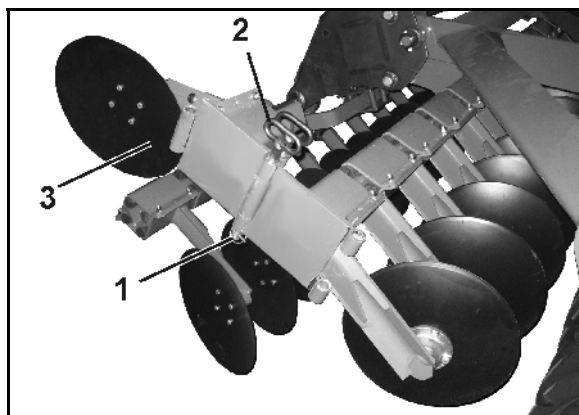

Fig. 50
- 2.1 Release the lynch pin (Fig. 50/1).
- 2.2 Pull out the locating pin (Fig. 50/2).
- 2.3 Swivel in the side discs (Fig. 50/3) and secure in this position with the locating pin.